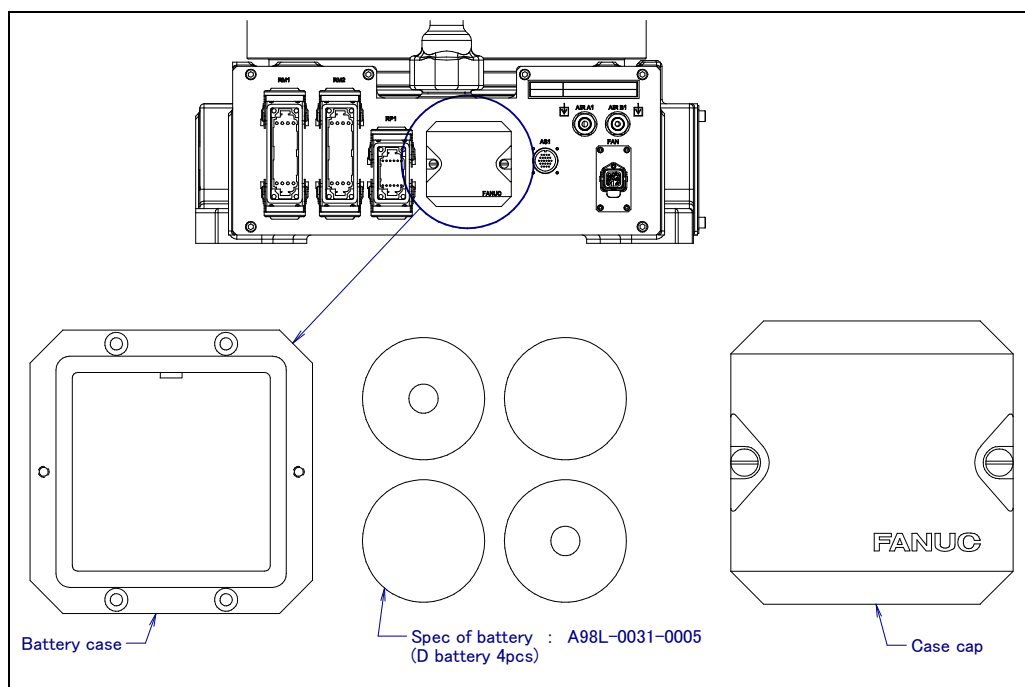

Fig. 7.3.2 Replacing the battery
- 2 Remove the battery case cap. (Fig. 7.3.2)